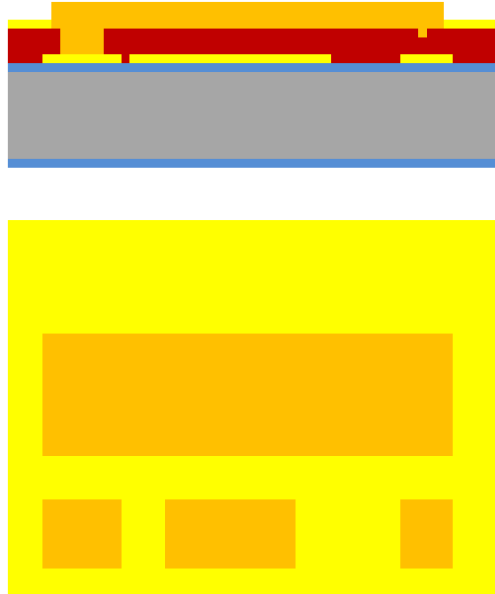

Figure 13 Stripping of photoresist electroplating mold.
- ii. Fill glass beaker with **CD-26** developer. Use enough to cover the sample. Submerge sample in **CD-26** developer until photoresist is completely removed (**Figure 13**).